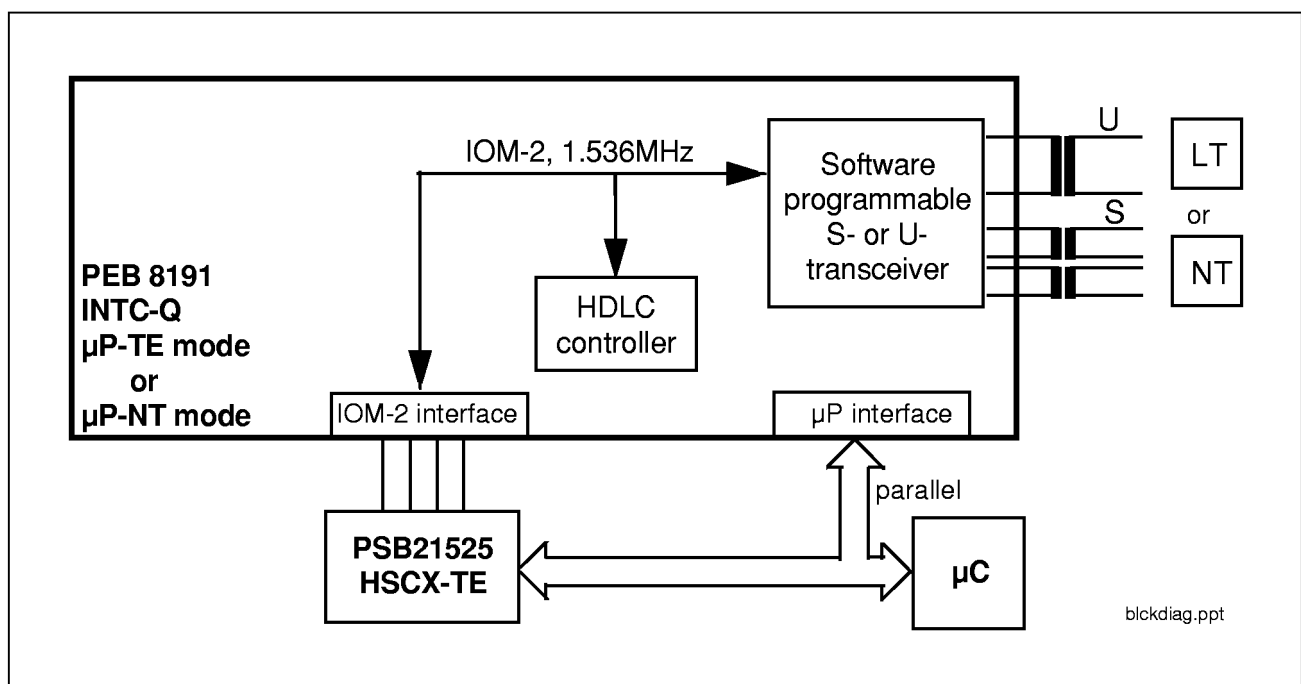

Figure 8
In terminal or terminal adaptor (TA) applications only one of the two INTC-Q transceivers is active while the other is disabled and powered down. With the INTC-Q it is possible to cover both, the S and the U-interface with a single layer-1/2 device in the terminal or TA equipment (**Figure 8**).